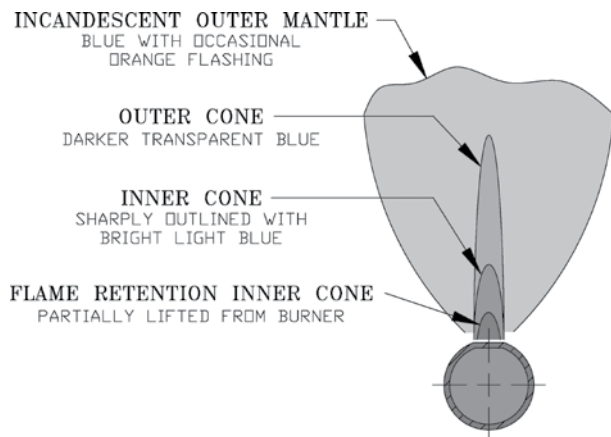

Figure 10- a
5. Adjust gas input rate. See *Appendix F – Adjusting Gas Input Rate*. Check main burner and pilot flames. See Figures 10-a and 10-c.